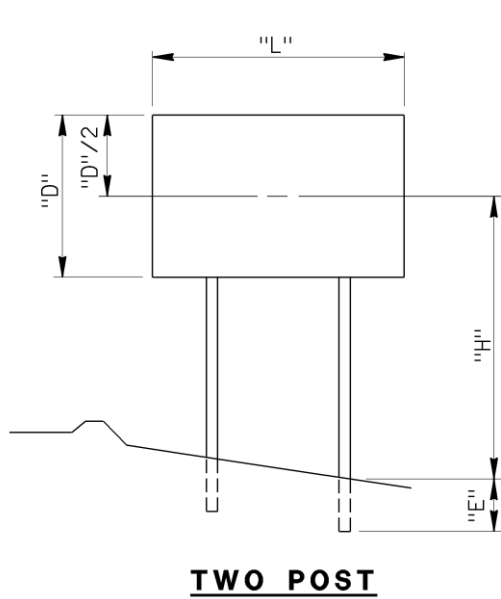
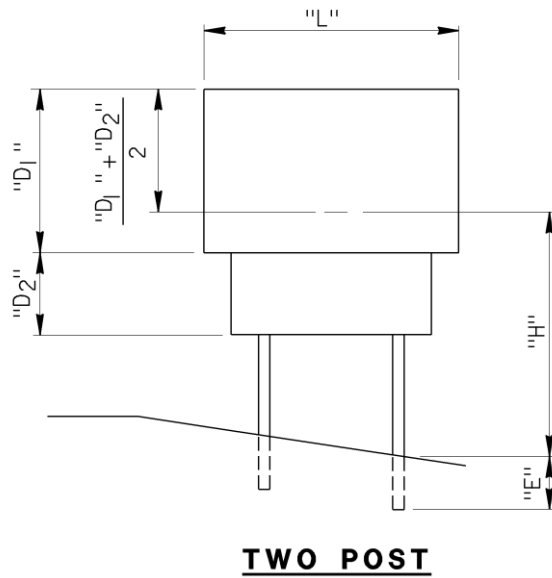

Figure 3: Explanation of Dimensions
Figure 4: Explanation of Dimensions
- Determine the basic dimensions (see Figure 3 or Figure 4 as appropriate)